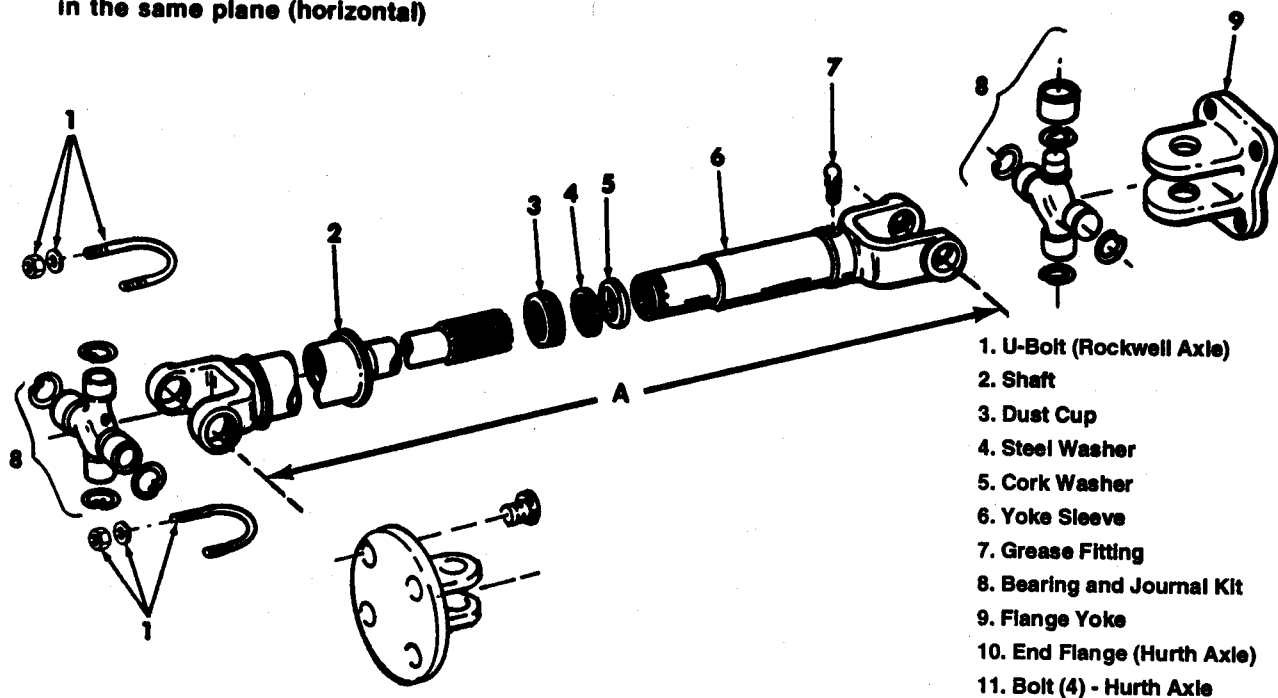

Figure 1. Drive Shaft (Transmission to Axle)
6. Apply SAE 140 oil to splines on the shaft and sleeve. Assemble the dust cap, steel washer and cork washer on the shaft. Assemble the shaft into the sleeve. Make sure both ends of the drive shaft are in the same plane as shown in Figure 1. Tighten the dust cap.